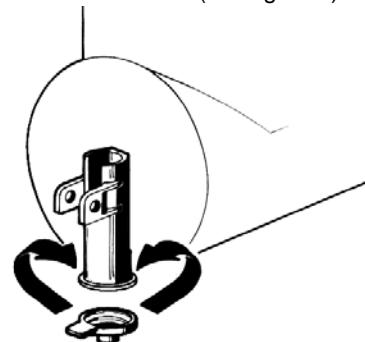

figure 4
- 10 Restrictor cap: when the unit is used in Soft Drink mode it is advisable to install the restrictor cap on the faucet outlet in order to reduce the drink outflow (see figure 4).